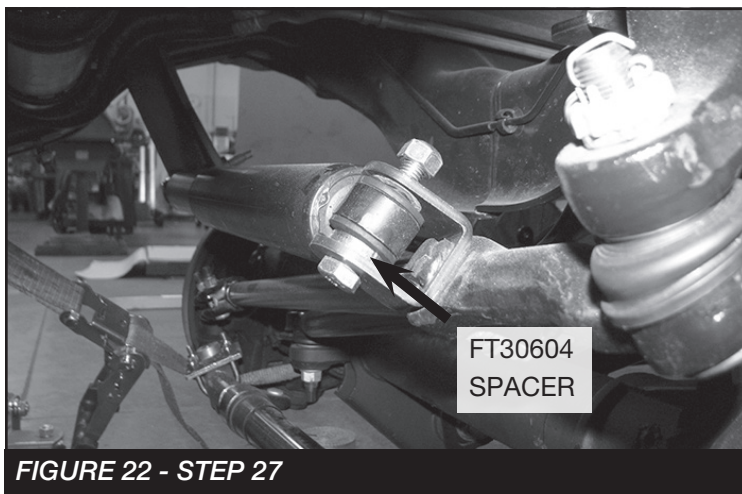

FIGURE 22 - STEP 27
27. Install FT30686 (Stabilizer Clevis) on the factory steering stabilizer using the supplied M12 hardware. **NOTE: Install FT30604 (spacer) like shown in the figure below.** Install the stabilizer using the supplied 9/16" washer and nut to the drag link. Using the factory hardware install the tapered end into the new Fabtech bracket. Torque to 127 ft-lbs. **SEE FIGURE 22**